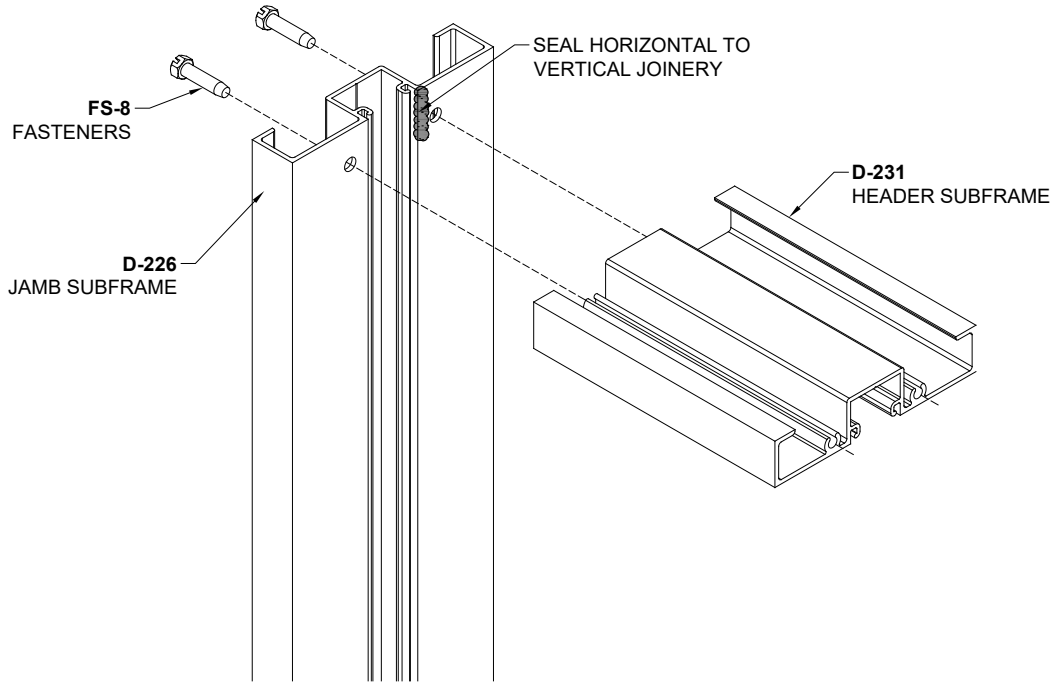
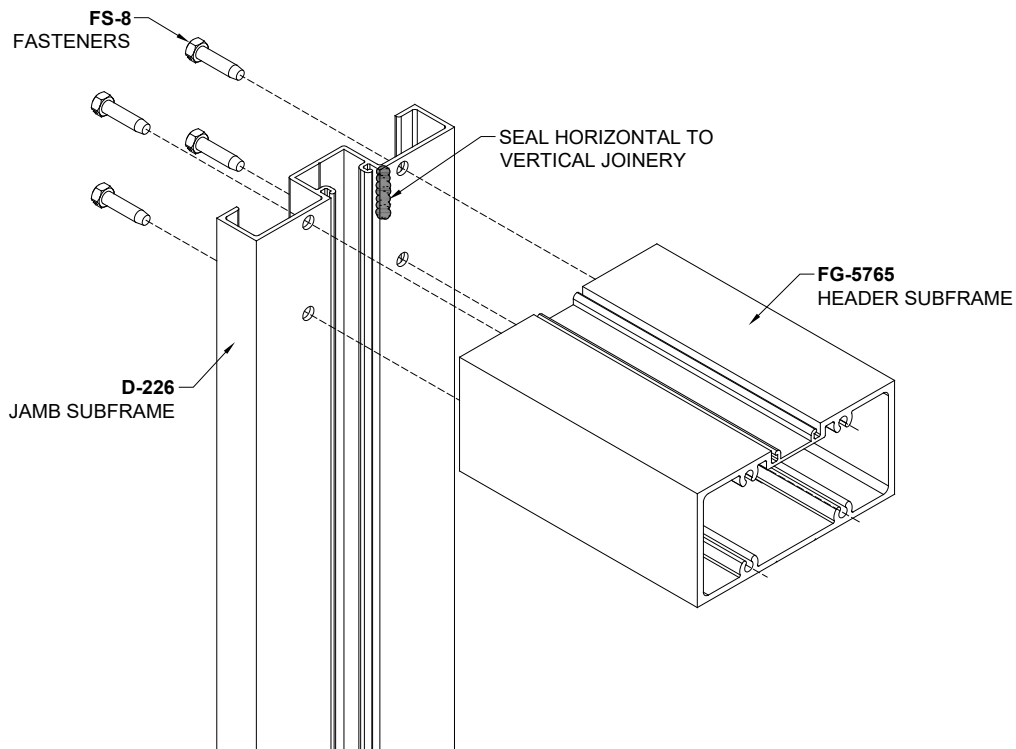

Figure 17: Curtain Wall Subframe Assembly at Header for Surface Closer
Figure 18: Curtain Wall Subframe Assembly at Header for Concealed Closer
- 5.1 Reference Figure 17 and Figure 18 to attach Door Jamb Subframe to Door Header Subframe using **FS-8** fasteners.